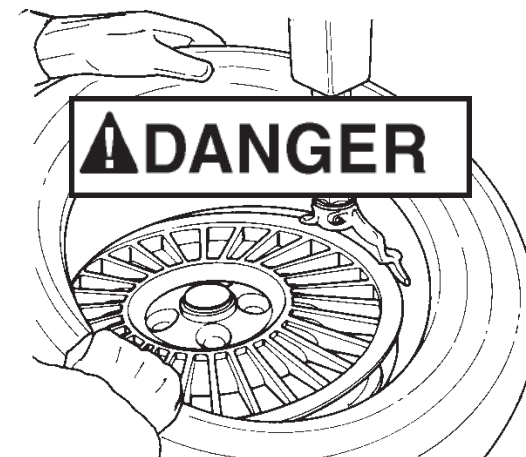

Fig.20
B. Lock the rim to the turntable and rotate it so that the valve is at the 2 o'clock position. Place the tire to be mounted on the rim. Move the mount/demount head toward it s forward working position. (Fig. 20) Engage the lower bead OVER the mount/demount head and UNDER the mounting finger of the mount/demount head (Fig.20). Turn the wheel clockwise (right pedal down) while simultaneously pushing the tire down into the drop center, opposite to the mount/demount head.